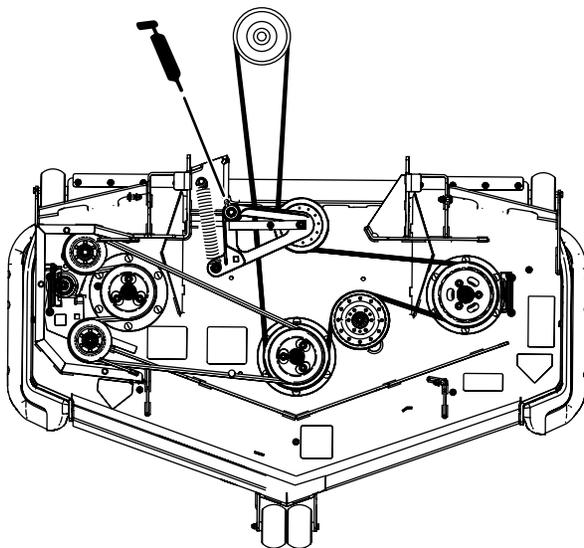

**Figure 53**
5. Grease the deck-belt idler arms (rear discharge machines only) as shown in Figure 53.